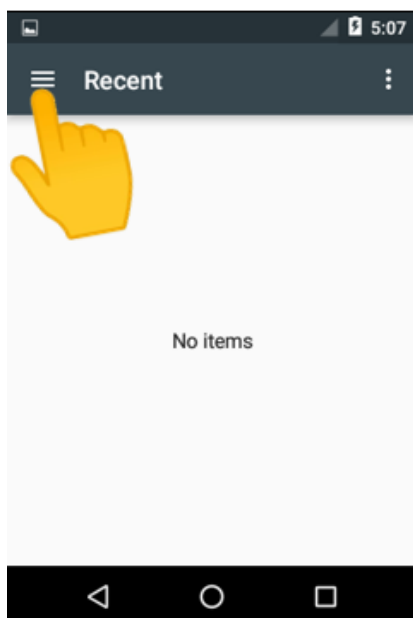

Figure 95: Tap 3 line icon
14. Tap **3 Line** icon (again) at the top left of the *Recent* screen (see **Figure 95**).